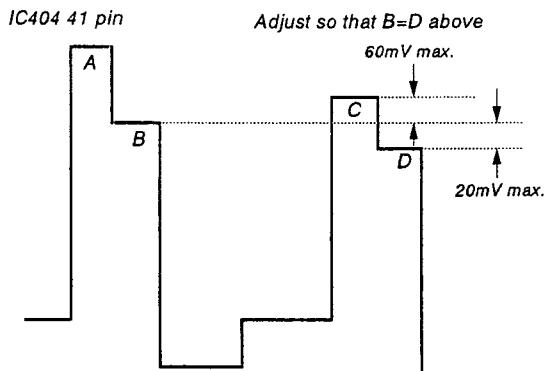

Fig. 24
- 4) Adjust [R-Y LEVEL PAL] so that the tops of the waveform line up as in the diagram below. (Fig. 24)